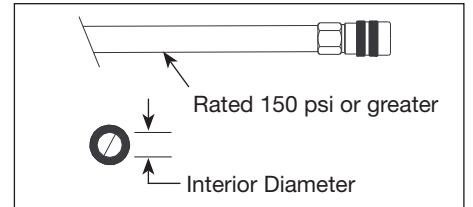

Figure 5 - Air Hose Requirements
**AIR SUPPLY HOSE:** ALWAYS use air supply hoses with a minimum working pressure rating equal to or greater than the pressure from the power source, or 150 psi, whichever is greater. Use 1/4 inch air hose for runs up to 50 feet. Use 3/8 inch air hoses for 50 foot run or longer (see Figure 5 and Chart 2).